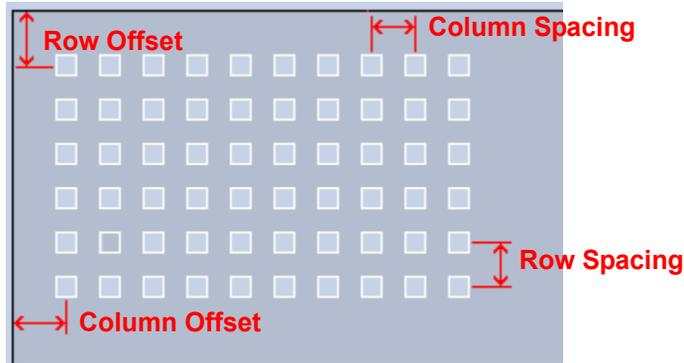

Figure 6-2. Design Grid Parameters.
4. Start by defining the Design Grid for your Pattern (Figure 6-2).